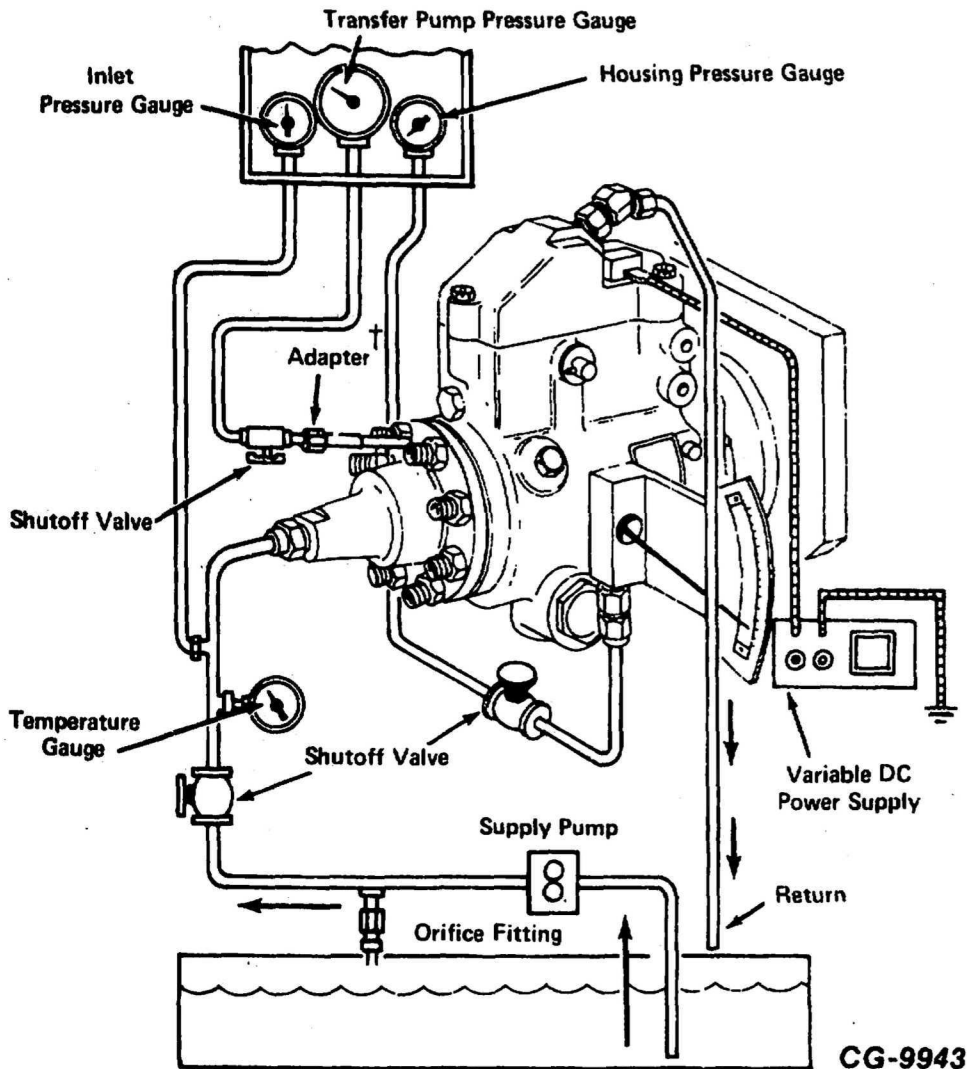

Figure 5.3. Low Pressure Test Bench Plumbing Circuit
- A flowmeter for measuring return oil should be used with a three-way valve which permits the flowmeter to be in use only during the return oil check. (Not illustrated in Figure 5.3).
### 7. LOW PRESSURE PLUMBING is required as illustrated in Figure 5.3.